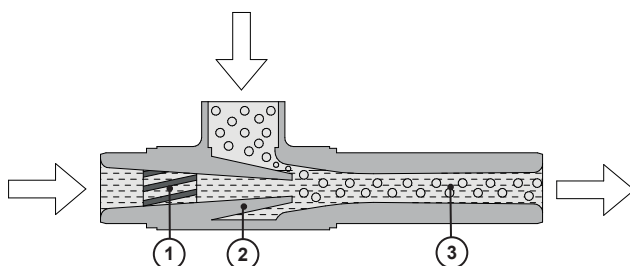

Fig. 1: Design of the ejectors
The water set in rotation by the twist element (1) in accordance with the sketch in Fig. 1 „Design of the ejectors“ on page 9 leaves the nozzle (2) at high speed and expands to a greater diameter as a result of the centrifugal force of the rotating jet. This jet exerts a piston effect in the opposite diffuser (3). The chlorine gas is pulled from the vacuum space by the water particles and dissolved in the water. The continually generated vacuum sucks in ever more chlorine gas.